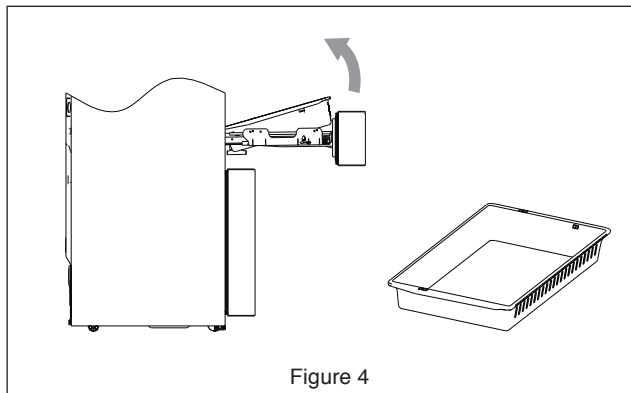

Figure 4
2. Lift the tail of the tray by holding both sides with both hands. See Figure 4.